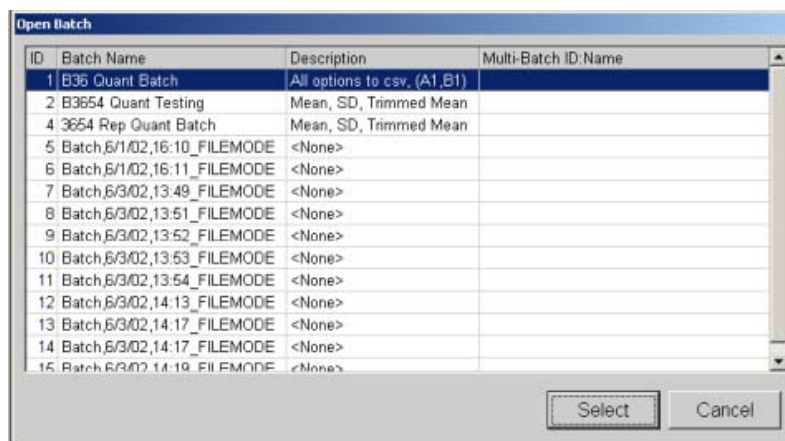

Figure 5-39 Analyze Open Batch
2. In the **Open Batch** dialog box, select the batch you want to analyze, then click **Select**. The most recent Replay Batch is the last or has the highest ID number. See Figure 5-39.